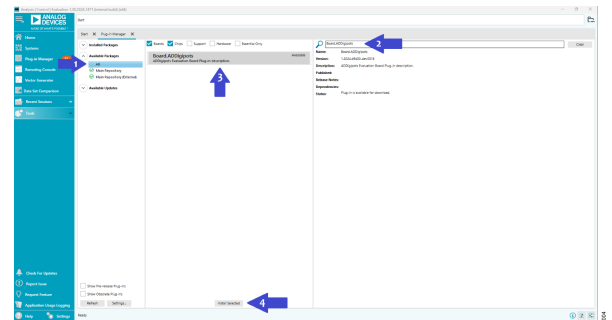

Figure 4. Installing Board.ADDigipots Plug-in
3. Within **Plug-in Manager**, go to **Available Packages**. Then, search for **Boards.ADDigipots**. Select the available plug-in and click **Install Selected**. For reference, see Figure 4.